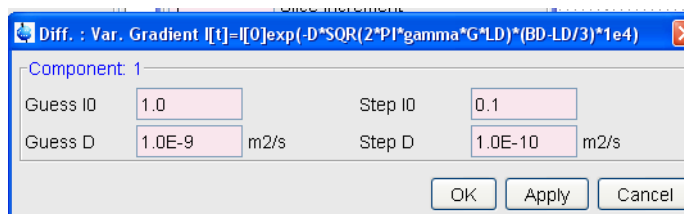

Figure 5.5 Guesses dialog box for one exponential
12. **Guesses**: Clicking on the button **Guesses** opens an additional dialog box, shown in Figure 5.5, if one exponential (Number of Components) is used. The fitting algorithm used by the **T1/T2 Analysis Module** needs initial **Guesses** for the fit. For single exponential fitting the algorithm is very tolerant, but for multi exponential fitting these values must be carefully set and sometimes varied a bit in order to get proper fitting.